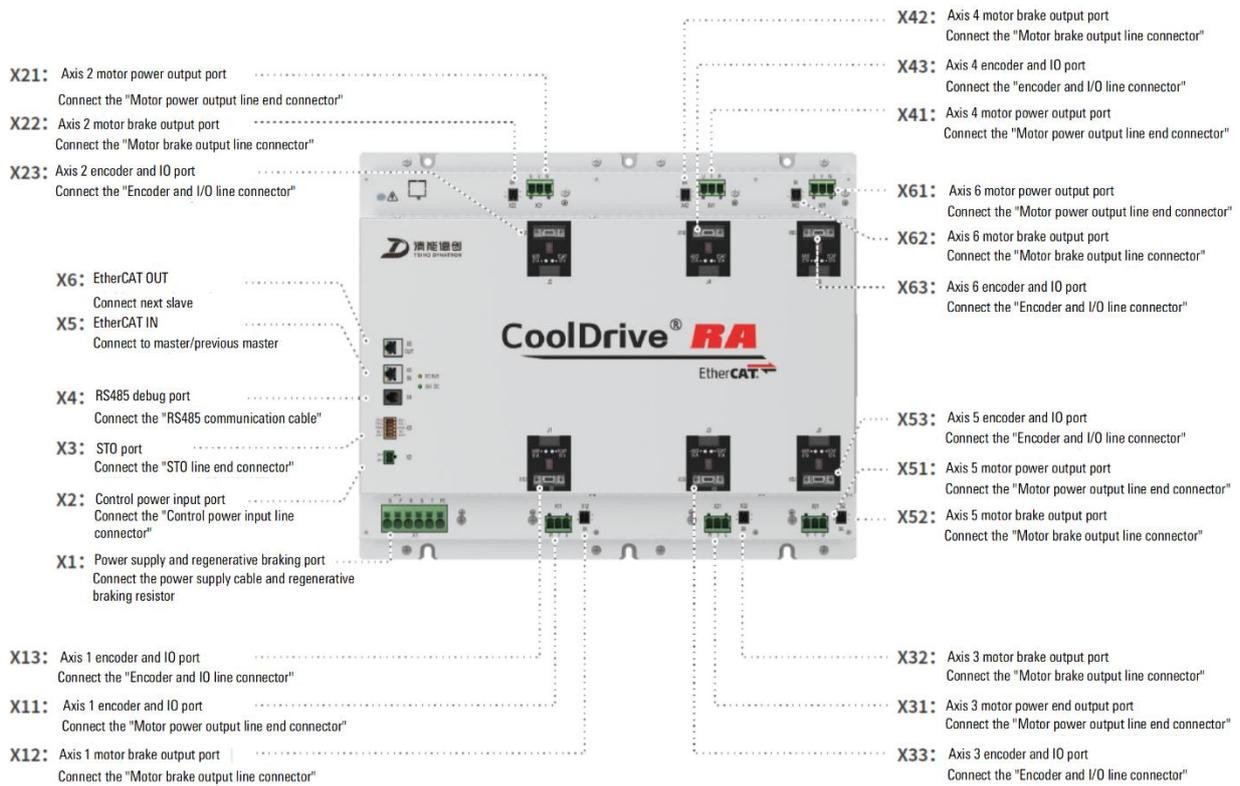

Figure 5-4 Drive interface
Step1.Remove the brake connector of the axis on which the brake needs to be released from the driver (refer to Figure 5-4), and use a flat-blade screwdriver to pull out the brake wire from the connector; (the brake can only be released on one axis at a time)